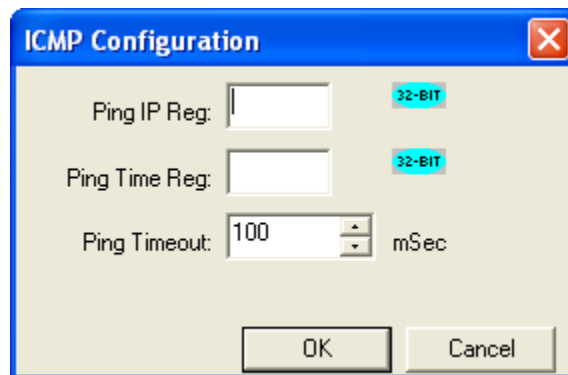

Figure 5.1– ICMP Configuration Dialog
3. Click on the **Config** button next to the **ICMP (Ping)** checkbox to open the ICMP Configuration dialog (Figure 5.1).